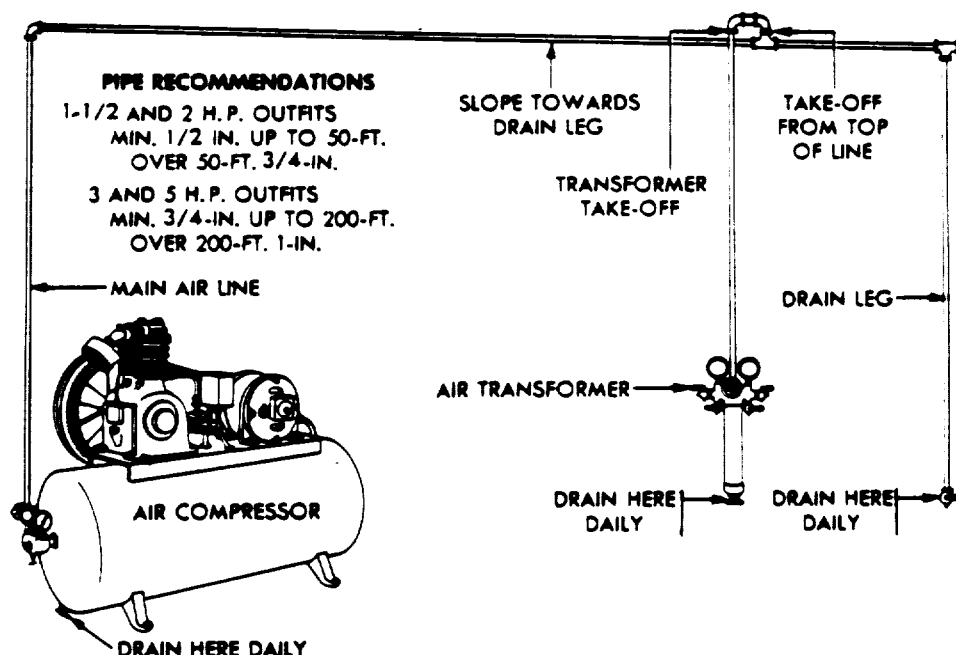

Figure 5-13. Air Transformer Installations
(1) *General.* An air transformer, or separator, is a device which condenses oil and moisture, regulates and filters the air, and provides outlets to which spray guns and dusters may be connected (see figure 5-13).
(c) The compressor air line to which the air transformer takeoff is attached should slant toward a permanently installed drain leg which should be drained daily. In localities where regulated air is available and only cleaning and filtering are needed, an air conditioner may be used to supplant the air transformer. The size of all necessary air lines is given in figure 5-13.